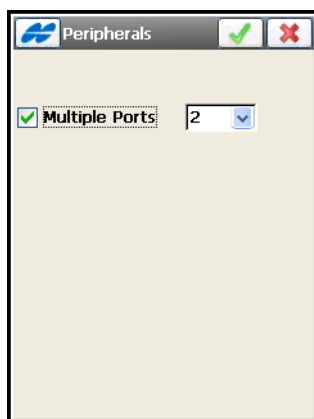

Figure 3-8. Peripherals
- **Peripherals** – if needed, check and enable the *Multiple Ports* option to configure the Base to transmit data from different ports used for peripherals (Figure 3-8).